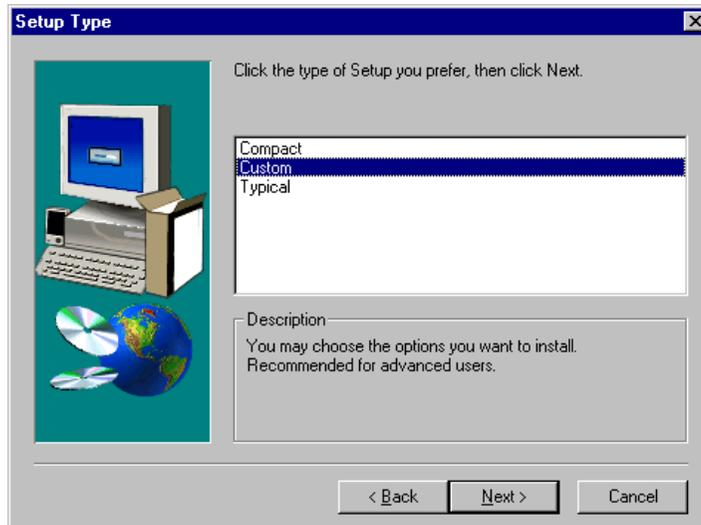

Figure 58. Installing TDP for MS Exchange, setup type
3. Select **Custom** installation (Figure 58).